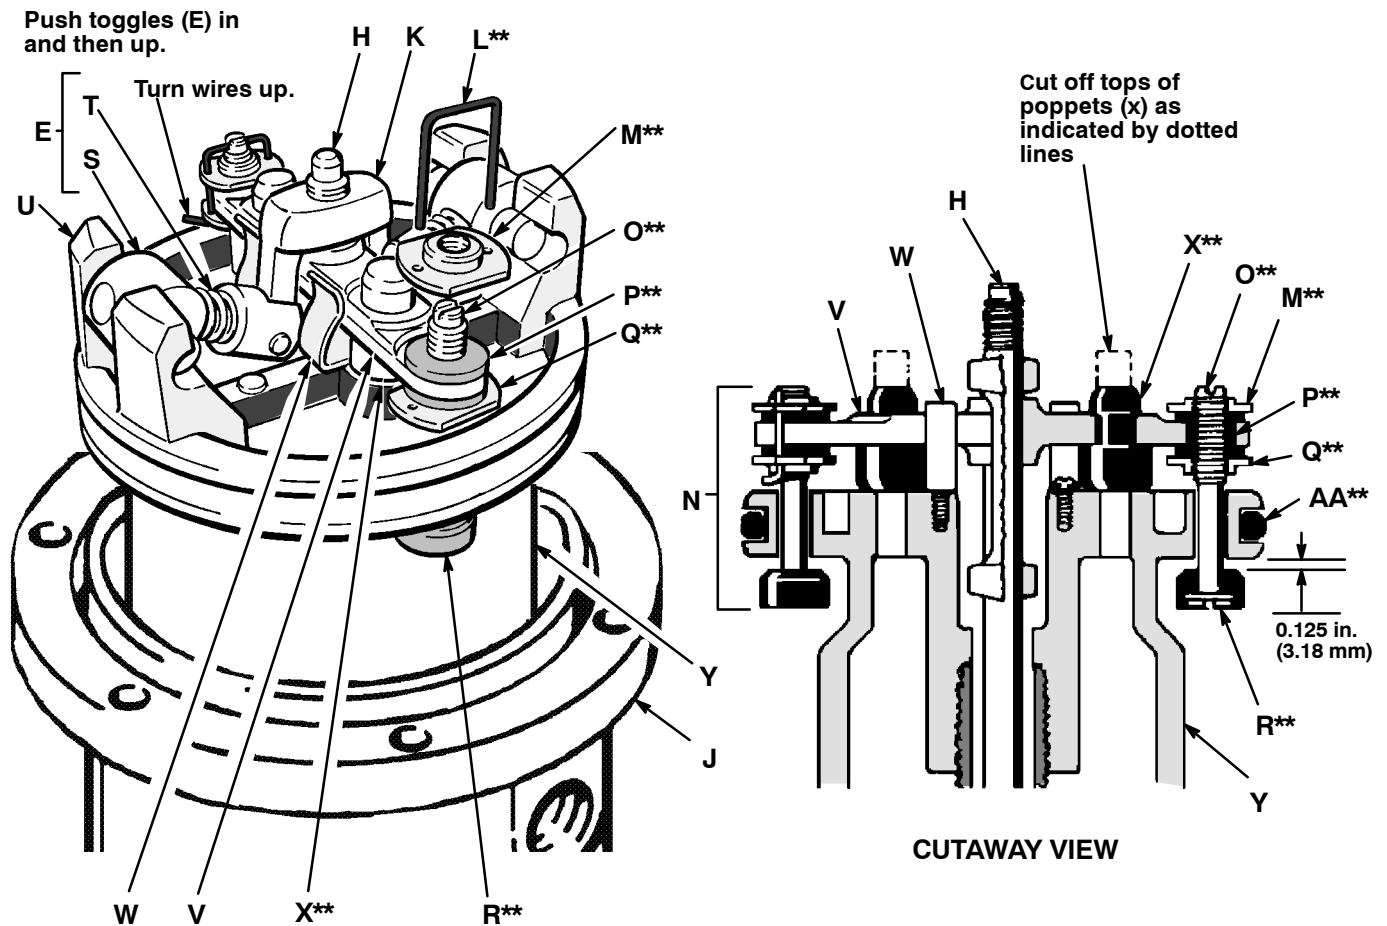

Fig. 3
Always keep fingers clear of the toggle assemblies (E), to avoid pinching or amputating them. See Fig. 3.
5. Use a screwdriver to push down on the trip rod yoke (K) and snap the toggle assemblies (E) down. See Fig. 3. Remove the lockwires (L) from the adjusting nuts (M and Q) of the transfer valves (N). Screw the top nuts (M) off. Screw the valve stems (O) out of the grommets (P) and lower adjusting nuts (Q). Take the valve poppets (R) off the stems and squeeze them firmly to check for cracks.
6. Grip the toggle rockers (S) with a pliers. Compress the springs (T) and swing the toggle assembly (E) up and away from the piston lugs (U), and remove the parts. Check that the valve actuator (V) is supported by the spring clips (W), but slides easily into them. See Fig. 3.
7. Remove the trip rod yoke (K), valve actuator (V) and trip rod (H). Check the exhaust valve poppets (X) for cracks.
4. Be sure the o-rings are in place. Slide the piston rod down through the throat bearing and lower the piston (Y) into the air motor base (J).
5. Pull the exhaust valve poppets (X**) into the valve actuator (V) and clip off the top part shown with dotted lines. See Fig. 3.
6. Install the transfer valve poppets (R**) onto the valve stems (O**), then reassemble the valve stems (O**), bottom adjusting nuts (Q**), grommets (P**), and top adjusting nuts (M**) on the piston (Y). Assemble the trip rod (H), valve actuator (V), trip rod yoke (K) and toggle assemblies (E) on the piston. See Fig. 3.
7. Set gap on inlet valve (N) using the .125 in. (3.18 mm) side of gauge 171818. Rotate valve stem (O**) until snug against gauge, then back off until valve stem slot is lined up with wire holes in valve nut (M**) (do not back off more than 1/2 turn). See Fig. 3. Install lockwires (L**) in the adjusting nuts M** and Q**).
8. Snap the toggle assemblies (E) to the *up* position. Reinstall the cylinder (G) and hold the trip rod (H) in place with tool 207579. Apply a medium strength thread locking compound to the threads of the trip rod (H) and assemble the cap nut (F) to the trip rod (H). Torque the cap nut (F) to 60 lb-in (6.8 N-m). Install cap nut (F) into cylinder (G).